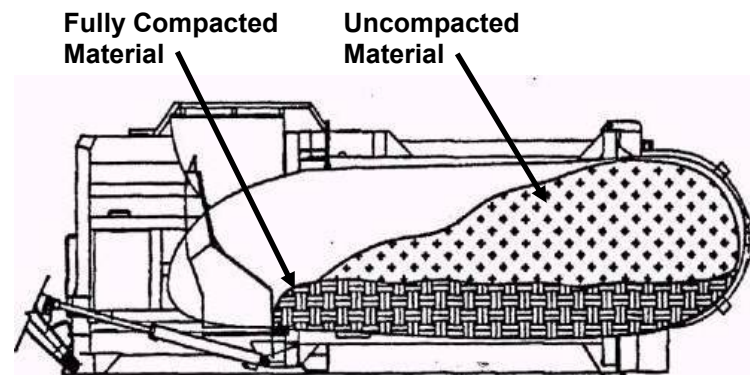

Figure 49. Occurance of "Bridging" Condition
8. When the body begins to fill, a condition called "bridging" can occur. Bridging is the build-up of compacted material in the bottom of the body. The material at the top of the body may still be relatively uncompacted. See Figure 49.